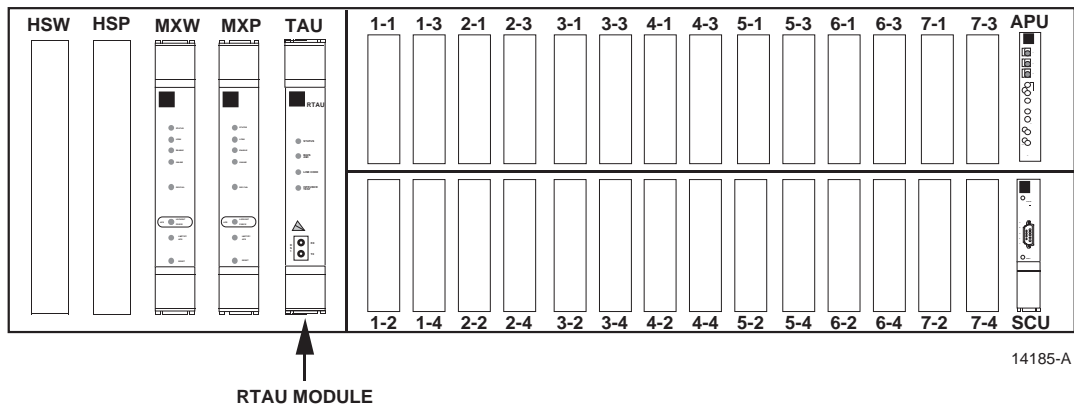

Figure 2. RTAU Mounting Position in the Soneplex Broadband
4. With shelf unpowered, refer to the chassis marking above the module slot (Figure 2) to install the RTAU module in the full-height slot labeled TAU.
3. Refer to chassis markings above the module slot (Figure 2) to install the RTAU module in the full-height slot marked TAU.